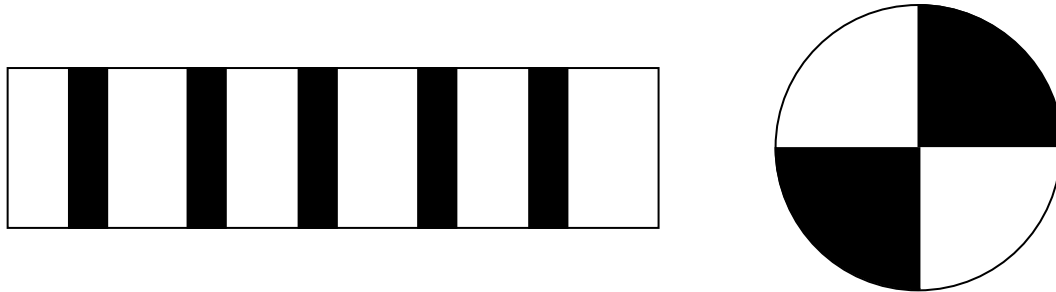

Figure 3. Test patterns
- 2) Get a piece of white paper. With a pencil, create either a linear or circular test pattern similar to the ones shown in figure 3, or just print it if a printer is available. Move the